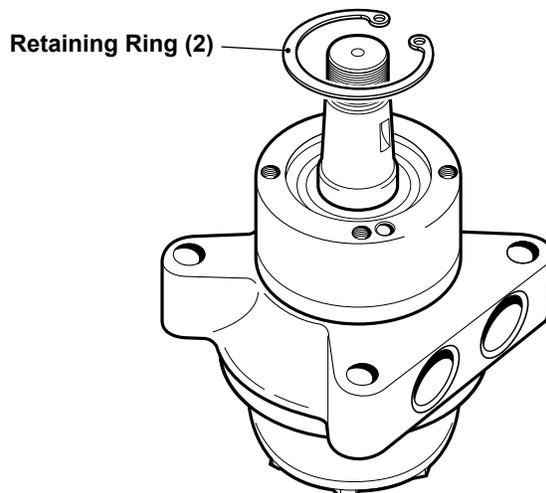

Figure 5, Retaining Ring
4. Remove the retaining ring (2). See figure 5.